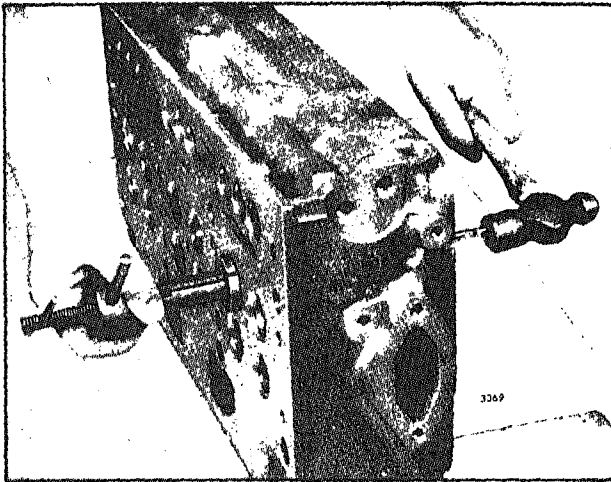

Fig. 7 - Removing Valve Seat Insert
1. Place the cylinder head on its side on a bench as shown in Fig. 7.